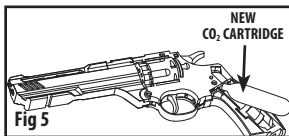

Fig 5
- Insert a new CO₂ cartridge into the airgun with the small neck of the cartridge pointing toward the top. (Fig. 5)